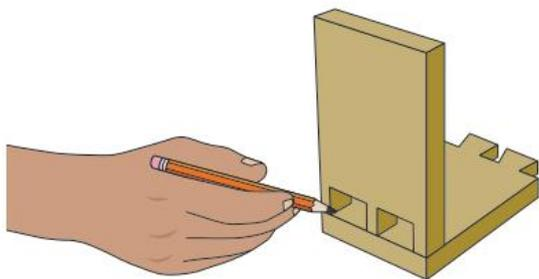

Figure 7.13 Marking dovetail sockets from pins
- 4 Mark the pin sockets, using the pins as a template (Figure 7.13). Your pencil needs a long taper and a sharp point for clear marking.